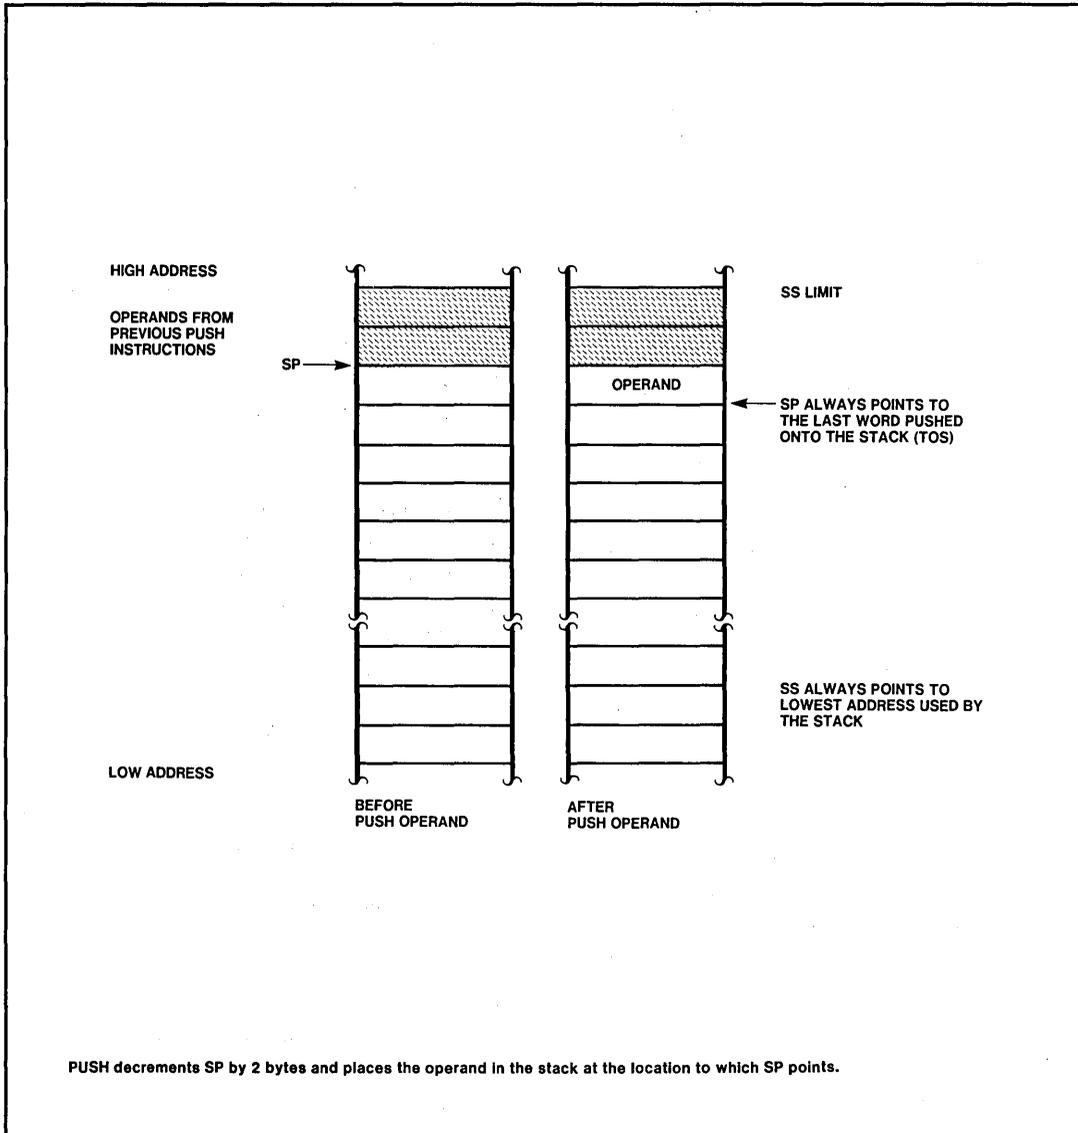

Figure 3-1. PUSH
*PUSH (Push)* decrements the stack pointer (SP) by two and then transfers a word from the source operand to the top of stack indicated by SP. See figure 3-1. *PUSH* is often used to place parameters on the stack